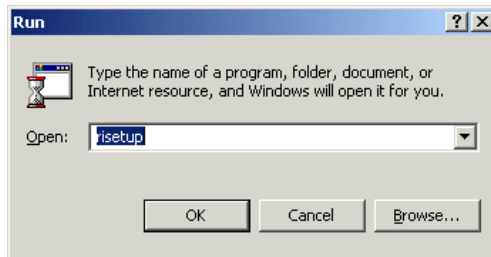

Figure 4-2 Starting Remote installation setup
- d. Scroll down to Remote Installation Services (Figure 4-2 on page 34).